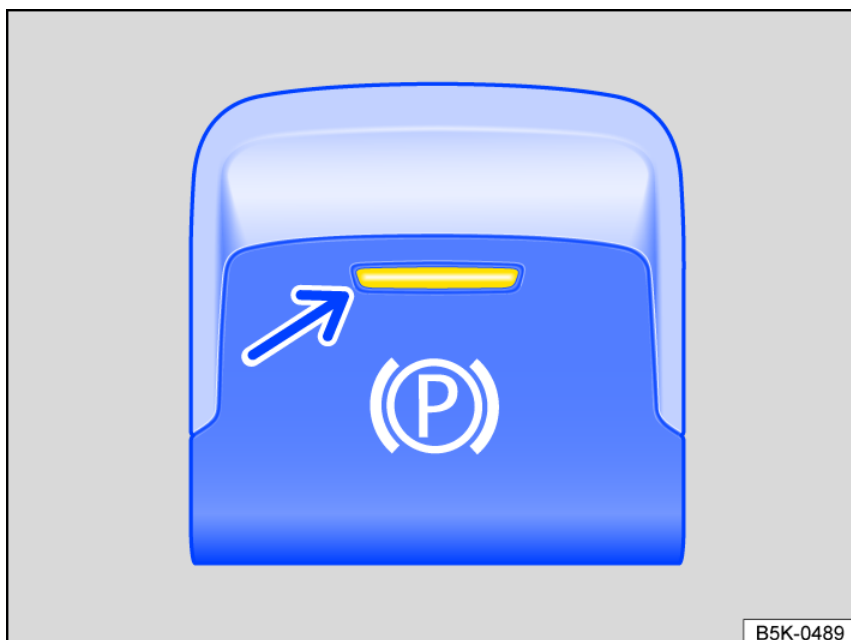

Fig. 135 In the center console: button for the electronic parking brake (general example).
- If the indicator light in the fig. 135 switch and the red  or **PARK** indicator light in the instrument cluster display turn on, the electronic parking brake is switched on.
- The indicator light in the fig. 135 switch and the red  or **PARK** indicator light in the instrument cluster go out.